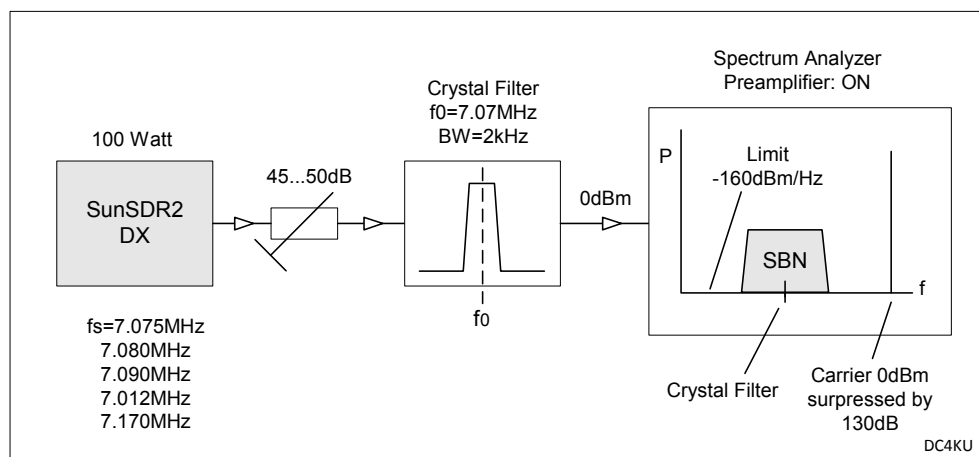
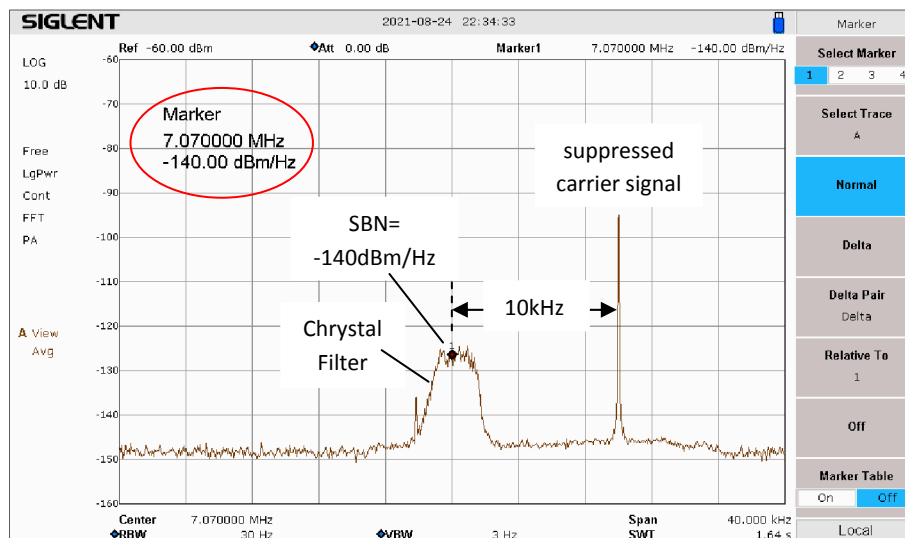

Figure 32: Measurement setup for SBN measurements on transmitters
Figure 33: TX-SBN in 10 kHz offset to carrier, SBN = -140dBm/Hz
Measuring the sideband noise of a transmitter is basically done in exactly the same way as the SBN measurement on an oscillator. The transmitter is set at frequency intervals of +5 to +100 kHz to the centre frequency of a narrowband and steep-edged crystal filter (7.070MHz, +/-1kHz) and the resulting sideband noise in the pass band of the filter is measured with a spectrum analyzer (**Fig. 32**). First, the 100Watt transmit signal (CW) must be attenuated to 1mW (0dBm) with an attenuator so that the connected spectrum analyzer is not overdriven. In addition, the 7.07MHz crystal filter blocks the transmit signal from an offset of 5 kHz by approx. 80dB, so that the transmit signal is attenuated by a total of 130dB. Only in the pass band of the crystal filter the noise is transmitted without attenuation. Now the analyzer can be set to its highest sensitivity of -160dBm/Hz, with 0dB RF attenuation and +20dB RF preamplifier switched on. Then the SBN of the transmitter can be determined at intervals of 5 to 100 kHz (1MHz) from the transmit frequency. As an example, **Fig. 33** shows the SBN result at a distance of 10 kHz from the carrier and **Table 8** shows the measurement results at distances up to 100 kHz.